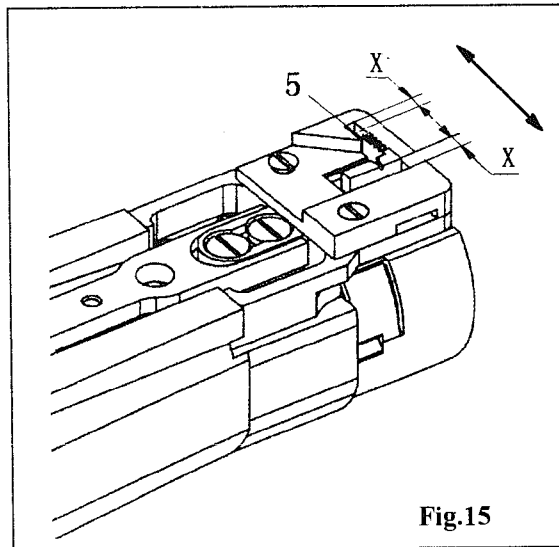
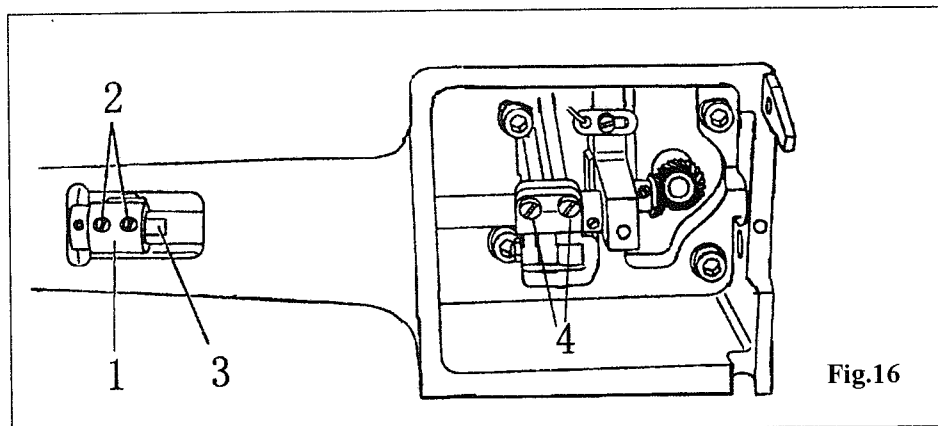

Fig.15
Fig.16
(2) Positioning the feed dog in the direction of sewing (Fig.15 Fig16)